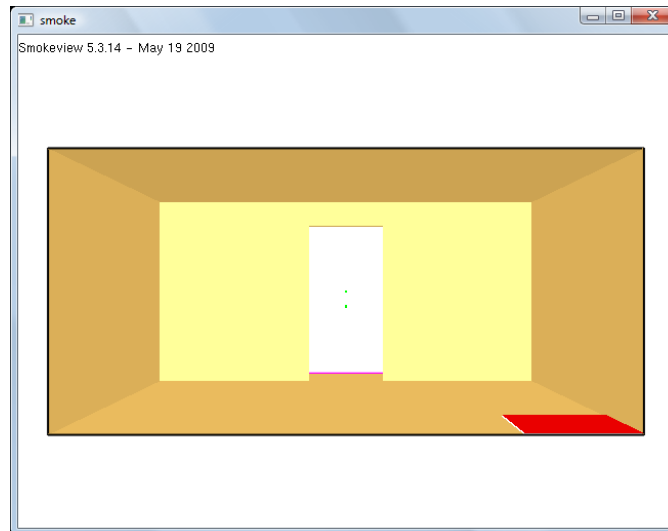

Figure 5.9. The initial Smokeview display.
5. When the simulation is complete, Smokeview should launch automatically and display a 3D still image of the model, Figure 5.9..